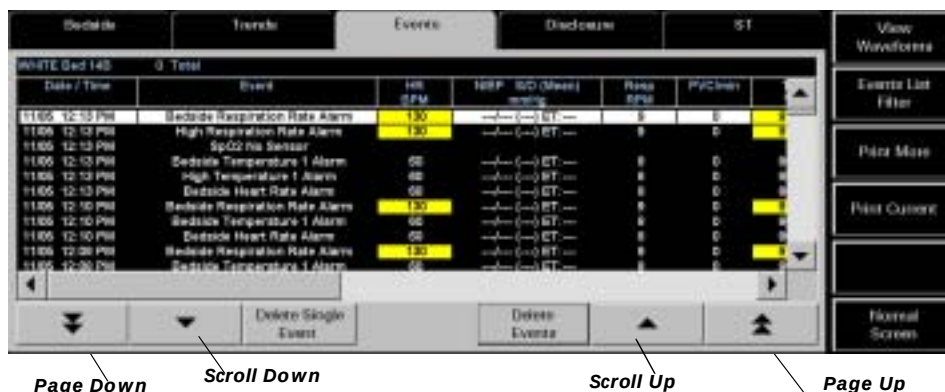

FIGURE 7-6 List view of the Events tab
2. Select the **Events** tab. The **List** view of the **Events** tab (FIGURE 7-6) is displayed first.
When the **List** view of the **Events** tab is first selected, the top row in the list will be highlighted. The event record's date and time displayed in the first column, the event description displayed in the second column, and the heart rate (HR) is displayed in the third column (FIGURE 7-6). All subsequent columns display parameter data in the order specified in the **Unit Priorities** tab.